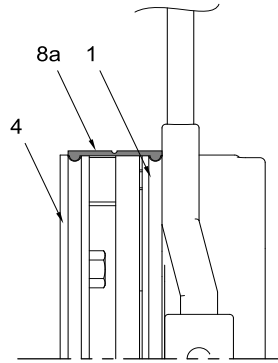

Figure 78 – Traverse Drive Brake Seal
- Press the lips of the seal into the grooves into the stator (1) and the mounting flange (4) (see Figure 78).